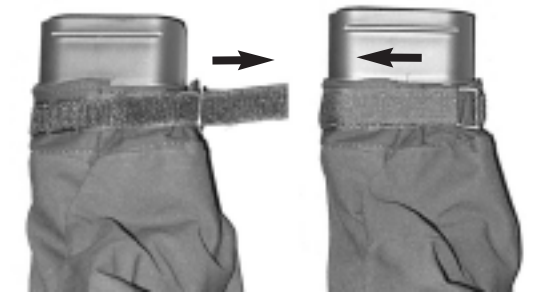

Fig. 9
6. Attach the vacuum bag to the vacuum bag adapter. (Fig. 9)